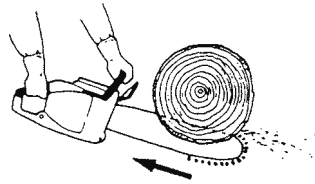

Fig. 20
- When cutting with the upper part of the chain the reactive force will push the saw towards you and away from the wood you are cutting. (Fig. 20)